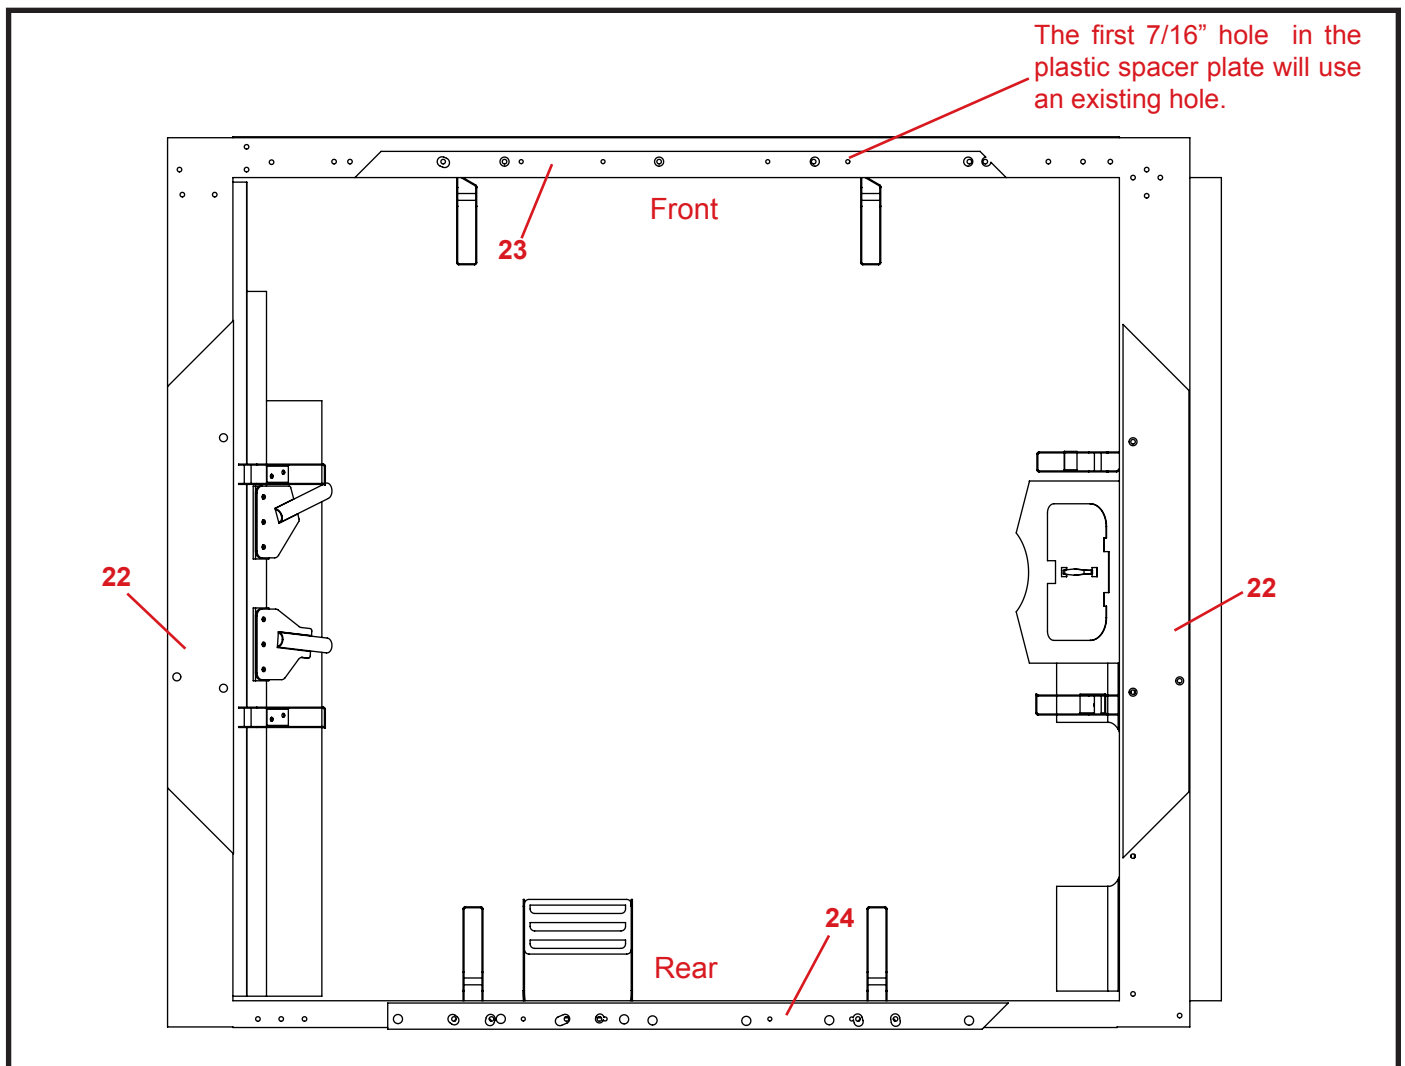

Figure 13
Place the plastic frame spacer plates on the combine's grain tank as shown in Figure 13. The large holes in the spacer plates allow them to fit over bolt heads that protrude above the grain tank. The front and rear plastic spacer plates each have (4) 7/16" holes in them. Use these holes as a drill template and drill a 7/16" hole through the grain tank in each location.